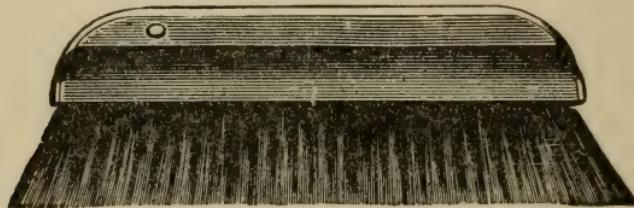
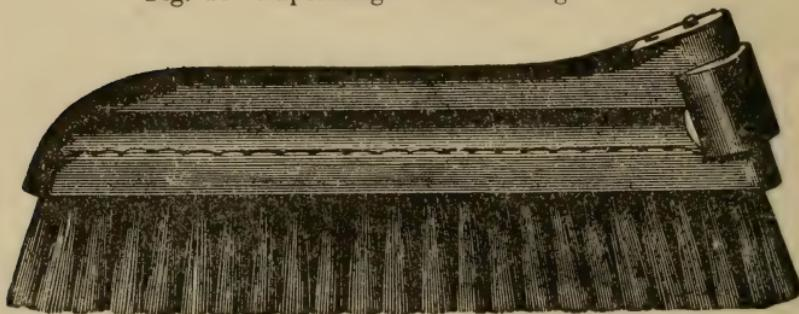

Fig. 25—Paperhanger's Smoothing Brush.
Fig. 26.
*r.* *Paper hangers' smoothing brushes* are made from one to four rows of stiff bristles, wire drawn, in several qualities and are sized according to the length of head from 10 to 14 inches wide. Fig. 25 shows the ordinary smoothing brush and Fig. 26 the combination smoothing brush and seam roller.